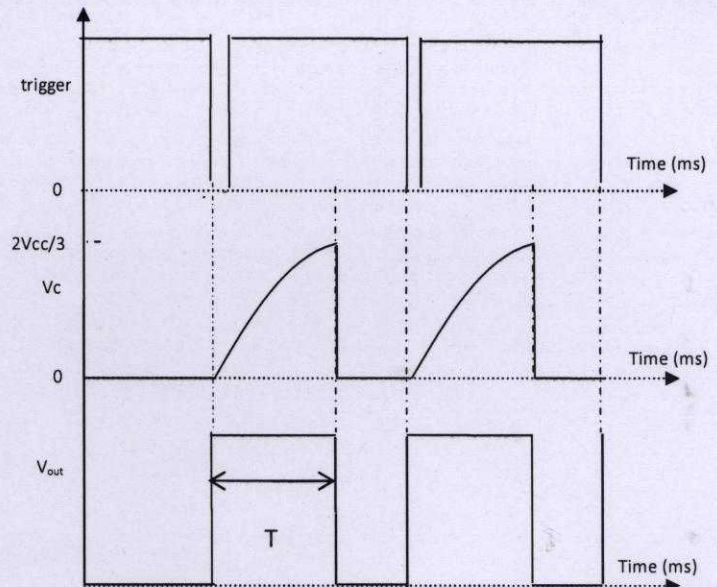

Fig. 9.3 Typical waveforms for monostable operation with IC 555
where T is the time period in seconds (s), R_1 is the resistance in ohms (Ω) and C_1 is the capacitance in farads (F). *The maximum reliable time period is about 10 minutes.* Fig.9.3 shows the typical waveforms of the trigger, the output voltage and the capacitor voltage.